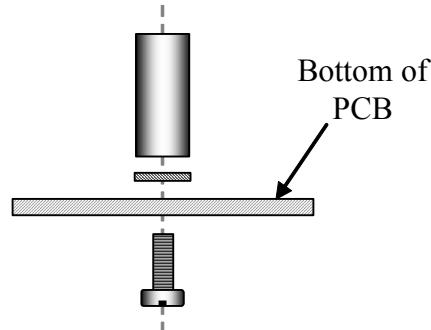

Figure 5-6
- Install two 1/4" (6.4 mm) diameter x 1/2" (12.7 mm) long hex standoffs on the bottom of the board (Figure 5-6). The holes for these standoffs are indicated by large pads on the top and bottom of the board. Use one lock washer and a chassis screw for each standoff. Insert the lock washer between the standoff and PC board.